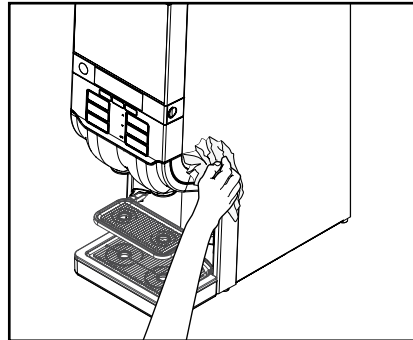

Fig. 32
6. Wipe down the exterior of the dispenser with a damp and clean cloth (fig. 32).